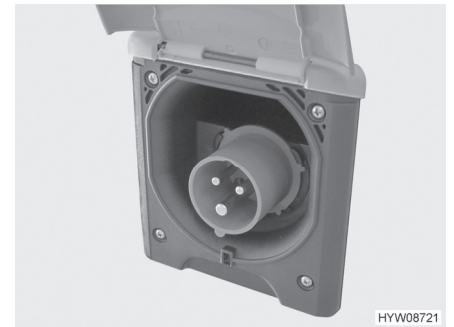

Fig. 139 230 V connection on the vehicle (CEE socket outlet)
- Open the cover of the 230 V connection on the vehicle (Fig. 139) and insert the plug connector. Ensure that the detent of the spring-mounted pivoting cover is engaged in position.